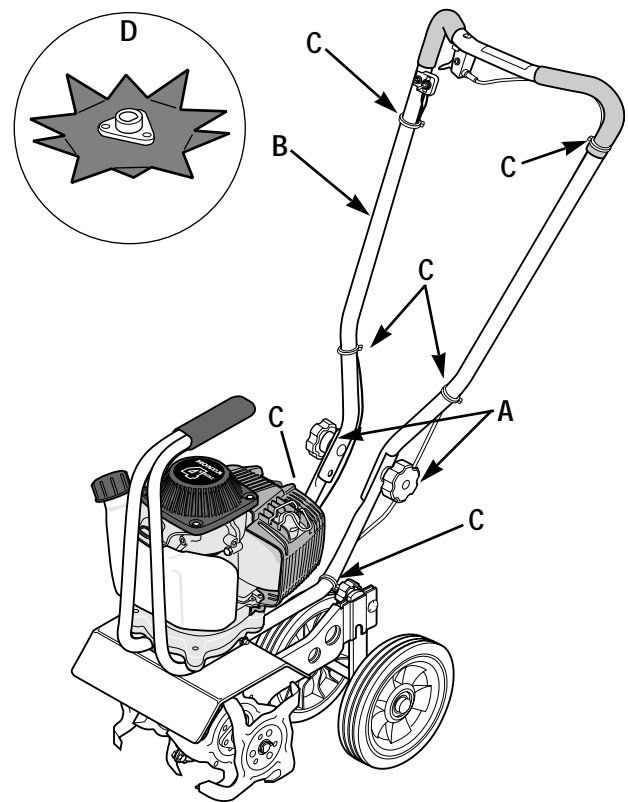

Figure 1
The Border Edger Attachment (D, Figure 1) does not need to be installed until you are ready to do edging projects (refer to instructions in Section 4).
1. Loosen the two handlebar knobs (A, Figure 1) and unfold the handlebars into the operating position. Do not use force — if there is binding, continue to loosen the knobs.
3. Check the six (6) plastic ties (C, Figure 1). The ties must be positioned as shown.